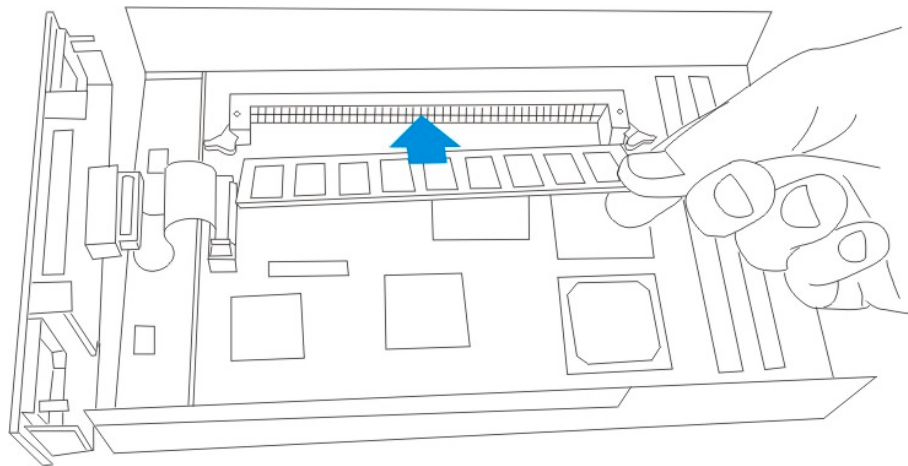

Figure 2-2: Install the DIMM Module
- Step 2.** **Insert the DIMM module.** Once the chassis top cover has been removed, install the DIMM module. To do this, first push the white clips on either side of the DIMM module in an outward direction. Next, align the DIMM module with the DIMM slot. Then, gently push the DIMM module into the slot. The white clips should automatically close and secure the DIMM module into the DIMM slot. (See *Figure 2-2*)